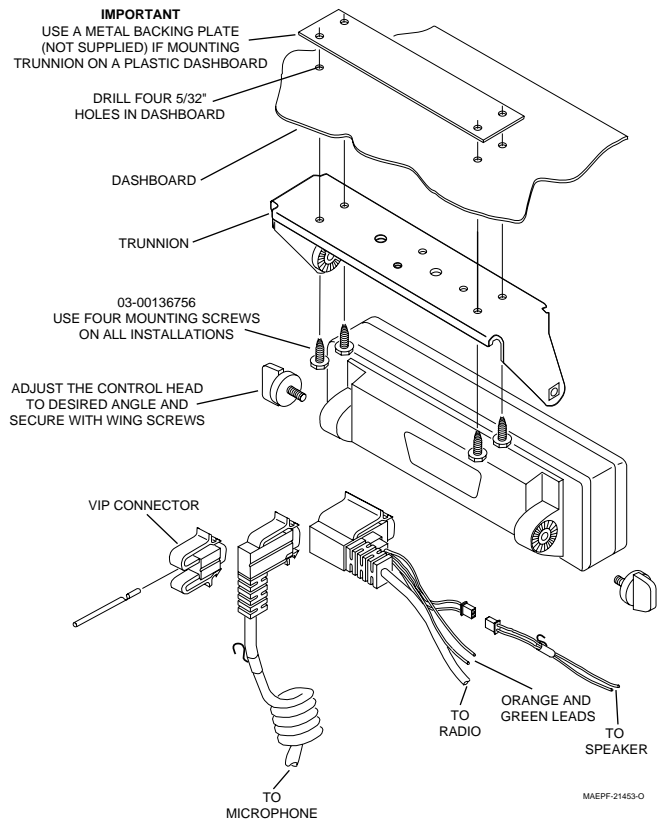
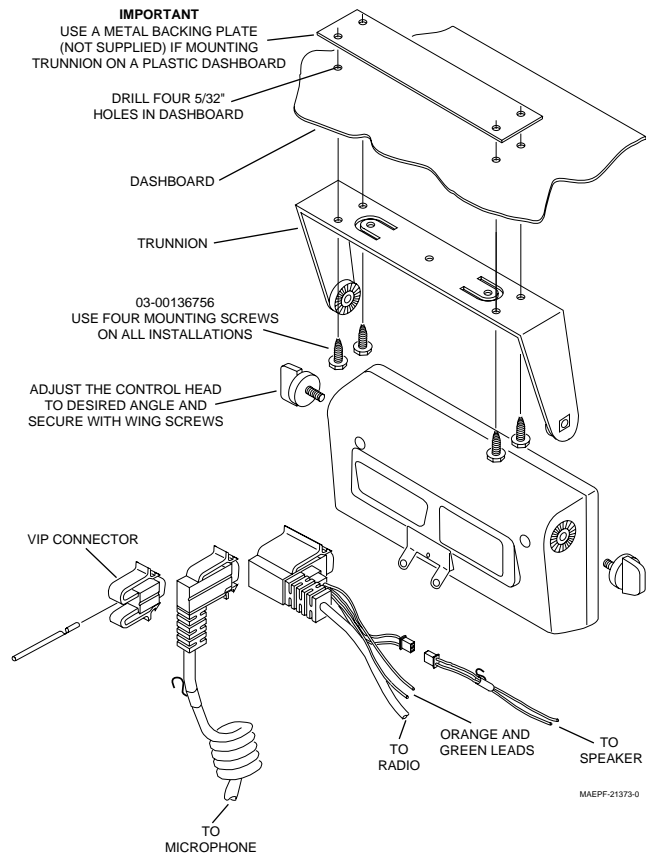

Figure 10 A4, A5, and A7 Control Head Installation Exploded View
Figure 12 A9 Control Head Installation Exploded View
The recommended mounting surfaces for the control unit are under the dashboard, on the transmission hump, or on the center console. Figure 10 shows an example of the A4, A5, and A7 control heads. Figure 12 shows how the bracket, control head, and cables should be installed for the A9 model control head.
- Temporarily, install the fuse (both are 3-amp), into the fuse clips onto both sides of the fuse. Slide the spring over the remaining loose end of the wire. The spring should be followed by the plastic insulator fuseholder oriented as shown in Figure 10. Slide the plastic insulator fuse holder together, by first making sure the spring slips inside the plastic insulator fuseholder cap. Now, twist the fuseholders until they lock together. After assembly proves successful, remove the fuses until instructed to install them later.